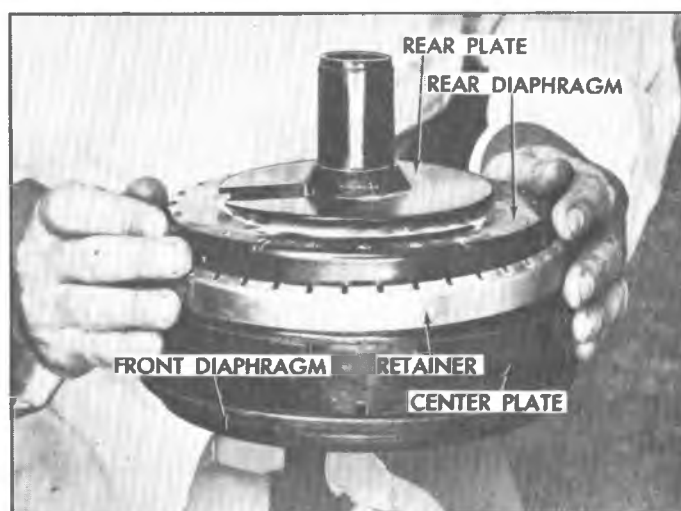

Fig. 10D--Installing Rear Diaphragm Retainer
9. Assemble rear diaphragm to rear plate and place lip of diaphragm in groove in rear plate. Install diaphragm retainer over rear diaphragm and lip of center plate. Using fingers, press retainer until it seats on shoulder of center plate (fig. 10D).